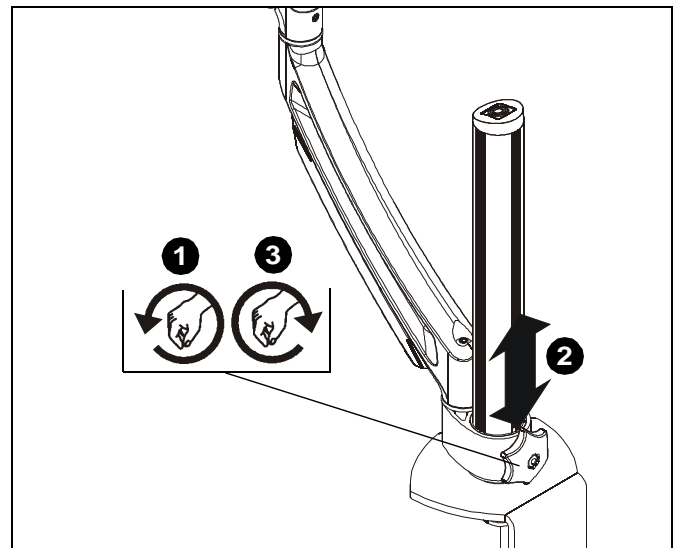

Figure 15
1. Loosen column adjustment knob. (See Figure 15)
2. Adjust height to desired level. (See Figure 15)
3. Tighten column adjustment knob. (See Figure 15)